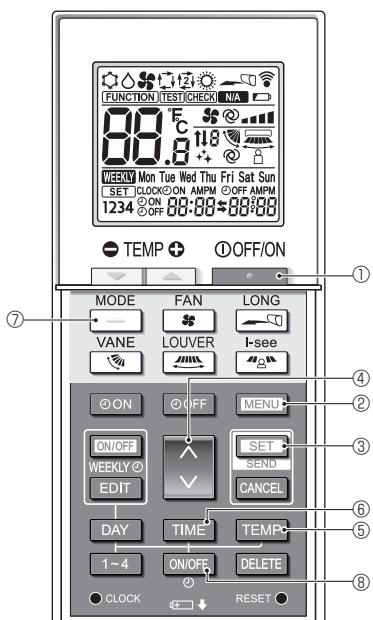

Fig. 6-9
1. Press the  button ① to stop the air conditioner.
2. Press the  button ③ in 5 seconds. Model setting screen will be displayed.
3. Press the  button ⑦. Operation mode Ⓐ blinks. (Fig. 6-9)
4. Press the  button ④ to change setting No.
5. Check that setting No. "6" is displayed and only    blink at operation mode Ⓐ, then press the  button ③ in 5 seconds.